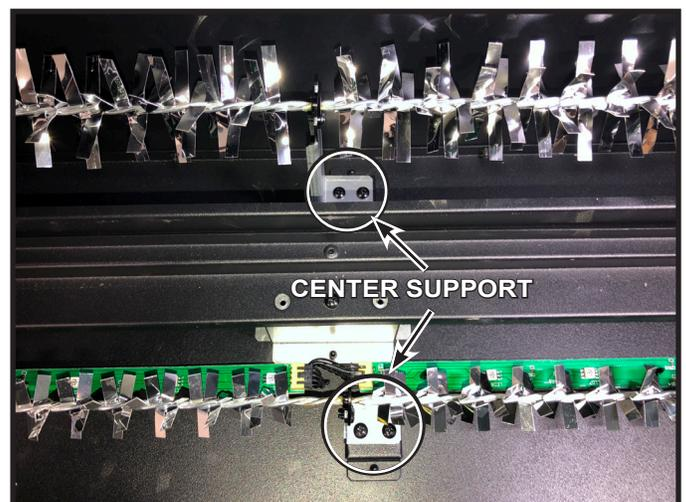
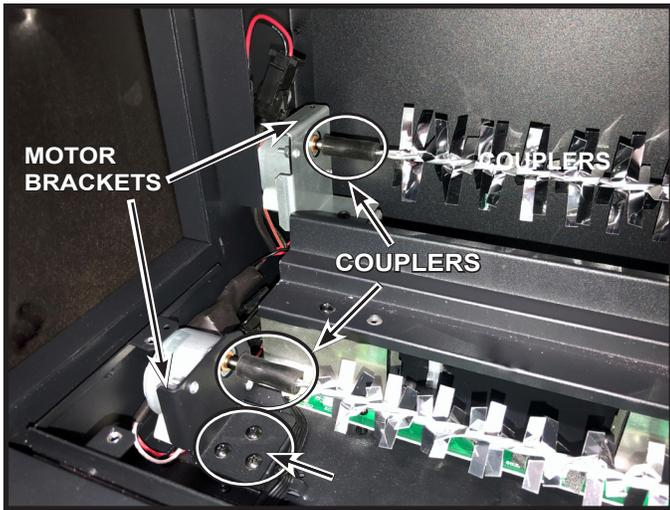

Figure 16 Rotisserie Center Support
Figure 17
4. Remove two screws from the rotisserie center supports. See Figure 16.
5. Remove motor bracket by removing three screws. See Figure 17.
7. Disengage rotisserie rods from motors located in left side of cavity. Use hand to shift the rotisserie rod to the right until the rubber coupler on the left end disengages from the motor shaft and lift out of the appliance. See Figure 17.
12. Re-install the motor and bracket with three screws. See Figure 17.
13. Install the replacement (or existing) rotisserie rod. Align the rubber coupler with the motor shaft. Shift the rod to the left until the rubber coupler fully engages the motor shaft or on the left side. See Figure 17. Replace the two screws for the rotisserie center support. See Figure 16.